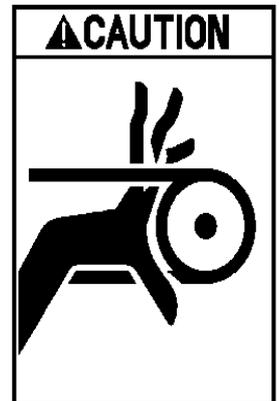

Figure 1-2
2. “Rotating Belt” Warning sign Figure 1-2 on machine belt.